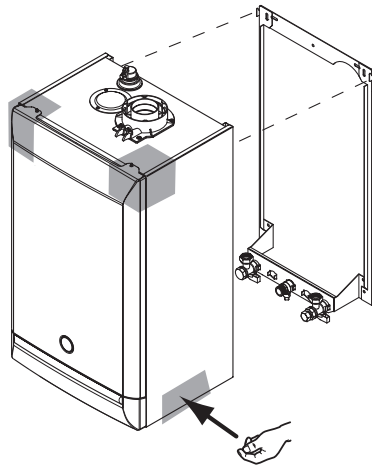

Fig. 36
1. Lift the boiler by holding as shown by the shaded areas. The boiler should be lifted by TWO PEOPLE. Engage the slots at the top rear of the boiler on the wall plate (Fig. 36) (see **Safe Manual Handling** page 5).